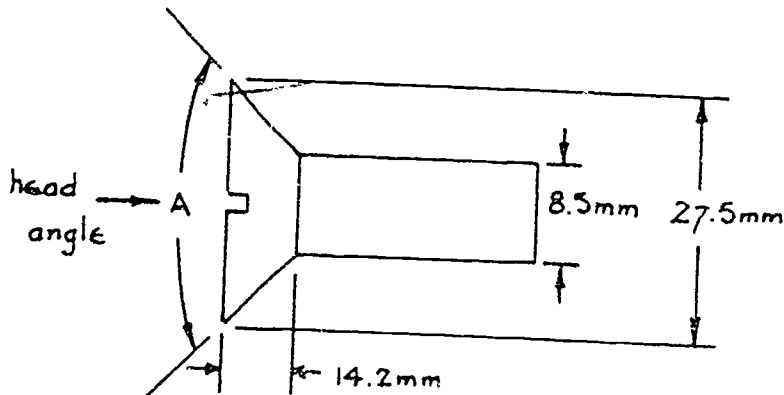

Figure 26: Find the head angle A.
2. You need to use a screw with a head angle A of no less than 65° and no larger than 70°. Your supervisor gave you the screw shown in Figure 26. Will it be satisfactory?